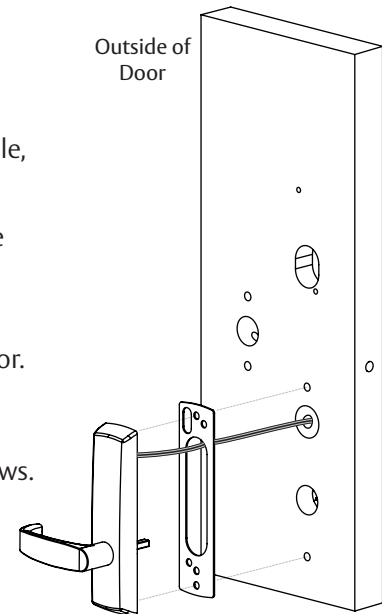

Fig. 5
a. For exterior application, use trim gasket to seal between trim escutcheon and outside door surface (Fig. 5).